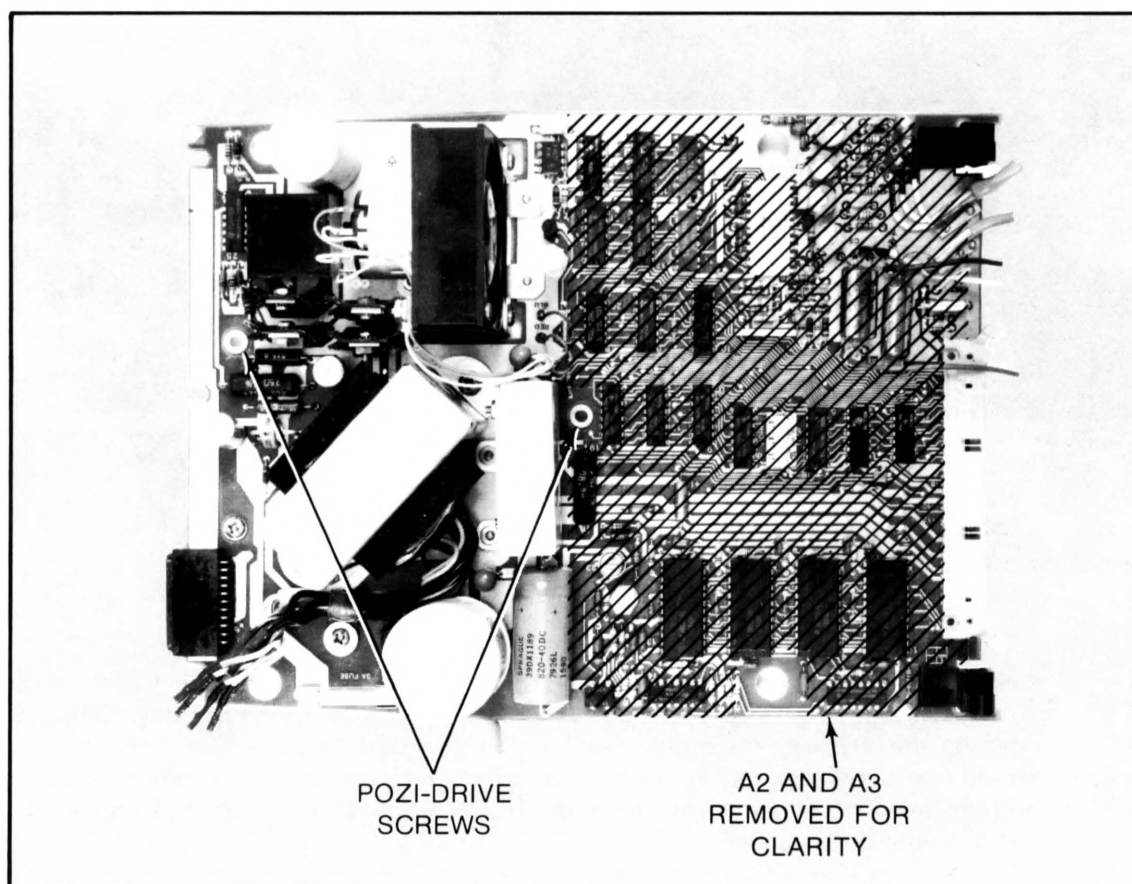

Figure 8-3. Bottom Cover Removal
- d. Removal of the bottom cover. The instrument is secured to the bottom cover with two pozidriv screws, located at the center and rear edge center of the A1 Main Assembly. See *Figure 8-3*. Remove the screw at the rear edge center.